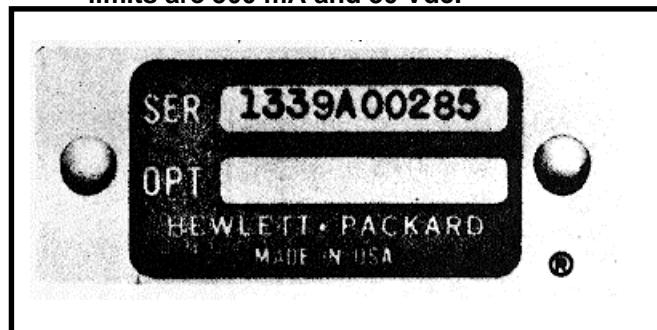

Figure 2. Serial Number Plate
8. Attached to the instrument is a serial number plate (Figure 2). The serial number is in two parts. The first four digits and the letter are the serial number prefix; the last five digits are the suffix. The prefix is the same for all identical instruments; it changes only when a change is made to the instrument. The suffix, however, is assigned sequentially and is different for each instrument. The contents of this manual apply to instruments with the serial number prefix(es) listed under SERIAL NUMBERS on the title page. If your instrument does not have a serial number prefix that is listed on the title page, refer to the manual changes supplement, or contact your nearest HP office for change information.